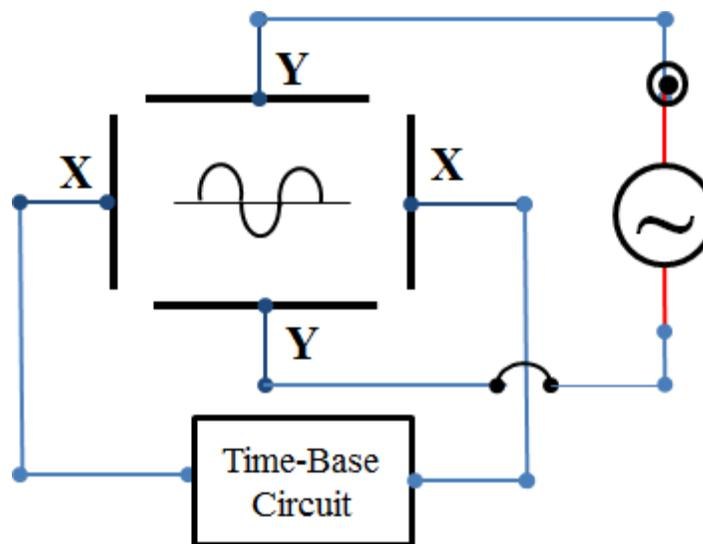

Figure 4. Block diagram showing the Time-base circuit with X and Y plates, respectively
2. Detecting the actual wave form like, alternating current or voltage, sound, etc. Let us consider that the wave form of voltage oscillations is to be traced as shown in Figure 4.